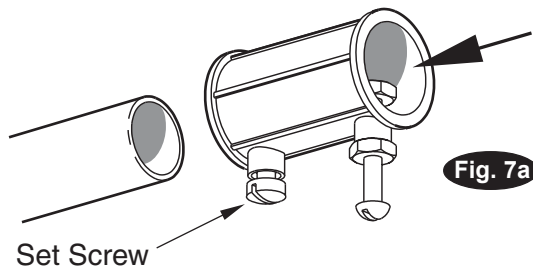

Fig. 7a
For three phase lifts: Place Actuator on switch bar on end opposite of holes, Fig. 7a. Ensure that the long bolt on Actuator is aligned with holes on opposite end of bar. Tighten set screw. Remove Limit Switch cover, Fig. 7c. Insert Actuator end of Switch Bar into slot located inside Limit Switch, Fig. 7c. Insert 1/4"-20NC x 2" HHCS through pivot hole in end of Switch Bar. NOTE which hole to use, Fig. 6. Then secure HHCS and Switch Bar to overhead as shown, using (2) 3/4" spacers and 1/4"-20NC Locknut. Tighten Hex bolt leaving 1/16" gap between the spacer and the overhead assembly, Fig. 6.